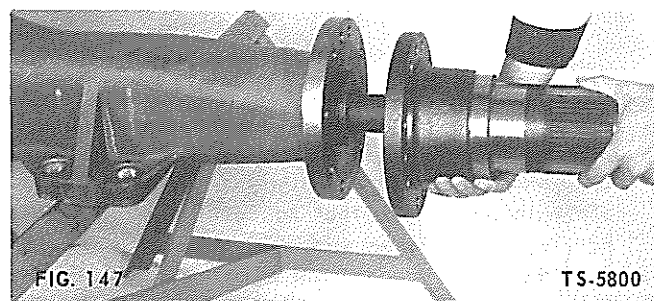

FIG. 147
10. Position spindle on axle housing so that mounting holes in spindle are aligned with mounting holes in axle housing (Fig. 147).